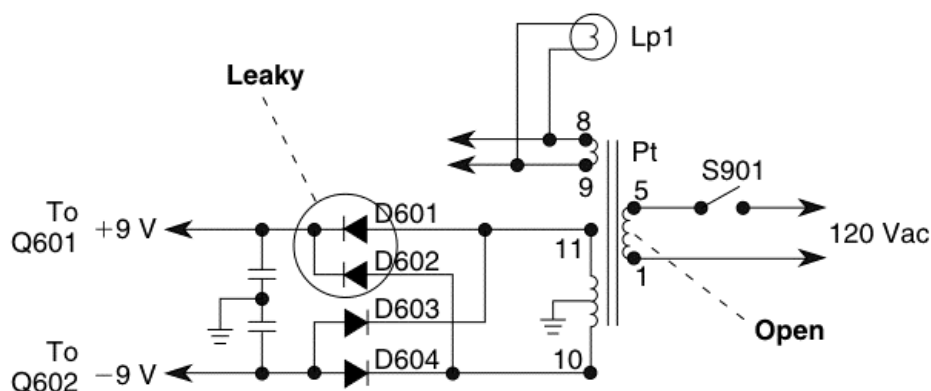

FIGURE 32-10 Check for leaky D601 and D602 diodes and for an open winding of the power transformer in this Sanyo CD player.
open, indicating that the transformer needed to be replaced (Fig. 32-10). Replacing diodes D601 and D602, and the power transformer (PT) restored the CD player operation (4-300T-95200).